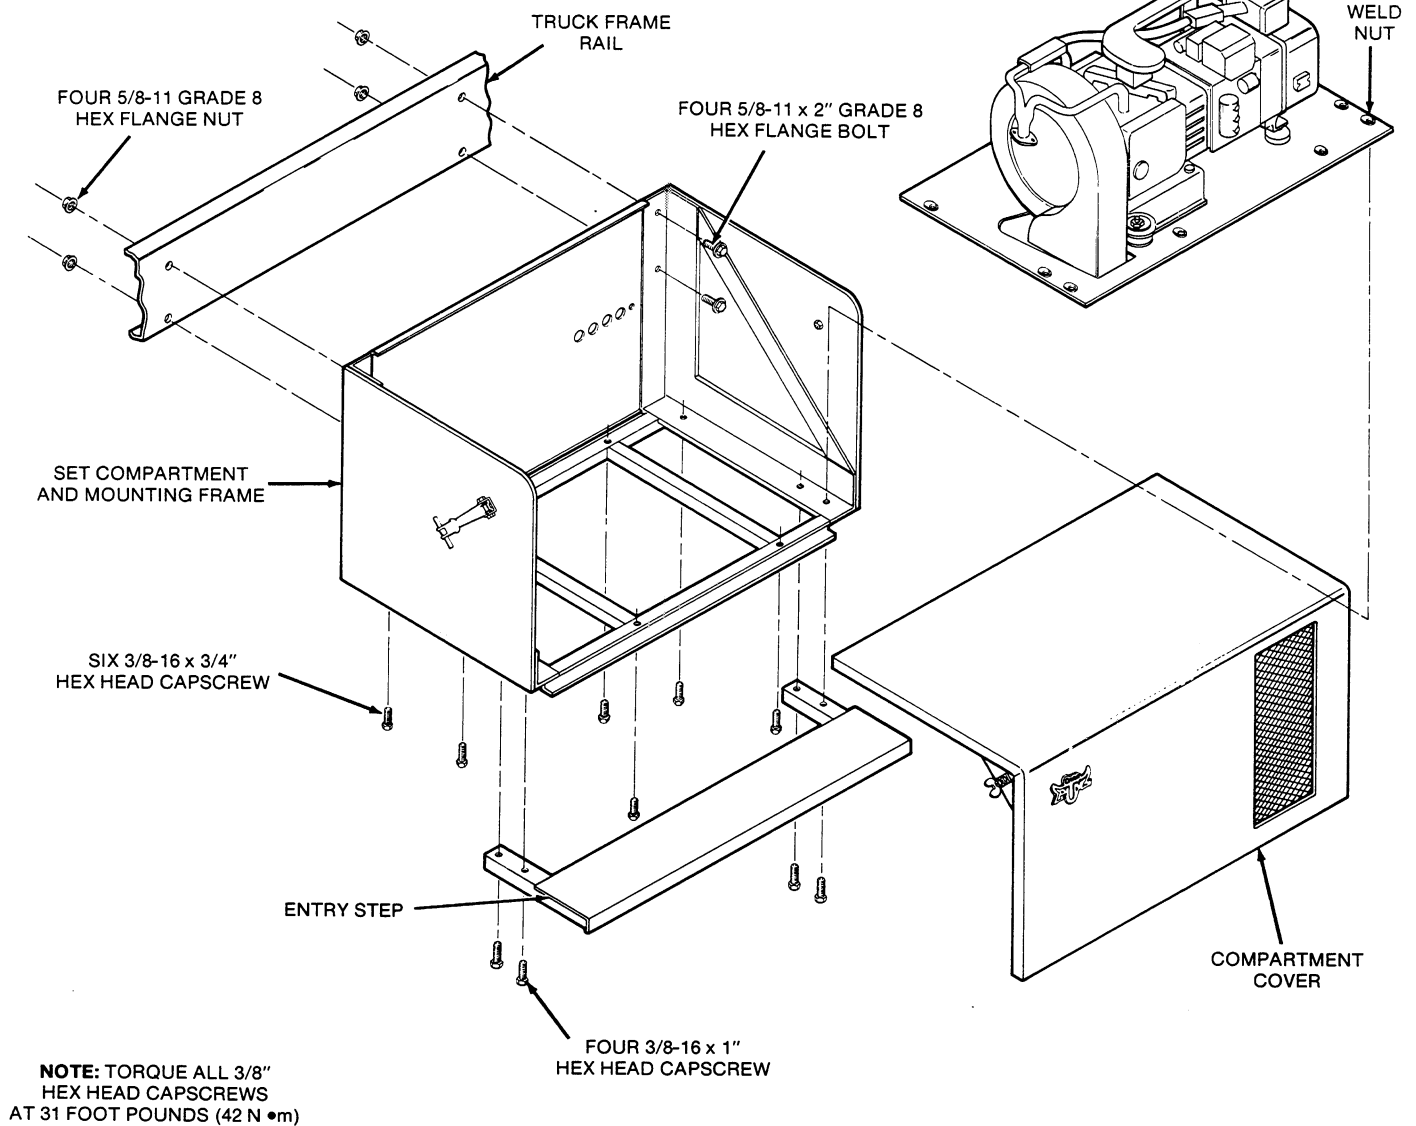

FIGURE 4. SIDE-MOUNTED GENERATOR SET AND COMPARTMENT ASSEMBLY
6. Install the generator set compartment onto the truck frame rail using the four 5/8-11 x 2 inch Grade 8 hex flange mounting bolts and nuts supplied. Torque mounting bolts to 200 foot pounds (271 N•m). Compartment assembly detail is shown in Figure 4 along with additional hardware details.
3. Position set so that weld nuts in set mounting tray line up with mounting holes in compartment frame as shown in Figure 4.
4. Install six 3/8-16 x 3/4 inch mounting screws in the four holes along the rear wall (back) of compartment and in the two inside (center) holes along the front edge of compartment from underneath. See Figure 4. Do not tighten yet.
5. Position step as shown in Figure 4 and install four 3/8-16 x 1 inch mounting screws (two in each front corner). Torque all ten mounting screws to 31 foot pounds (42 N•m) each.